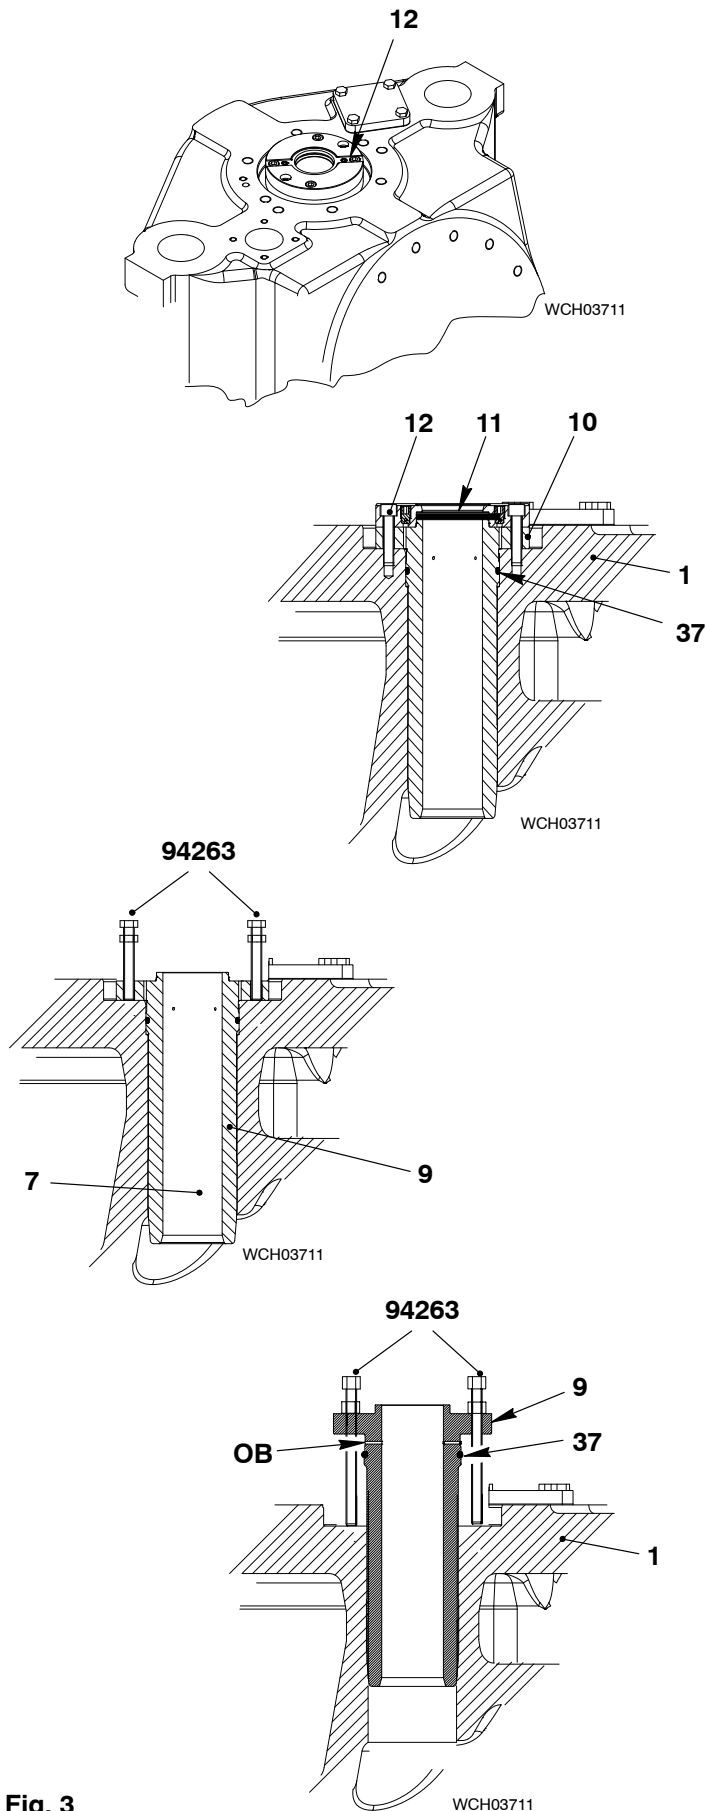

Fig. 3
- 1) Remove the four screws (12, Fig. 3).
- 2) Remove the spacer (10).
- 3) Remove and discard the rod seal (11).
- 4) Put the jack screws (94263) into the flange of the guide bush (9).
- 5) Turn the jack screws (94263) to lift the guide bush from the valve spindle (7).
- 6) Remove and discard the O-ring (37).
- 7) Measure the inner diameter of the guide bush (9).
- 3) Do a check of the piston seal ring (17) for damage. If you find damage, replace the piston seal ring.
- 5) Put oil on the valve spindle (7).
- 6) Use the two M20 eye bolts and two ropes or the lifting tool (94209) to lift the valve cage to the top of the valve spindle (7). Make sure that the valve spindle does not move.
- 8) Put oil on the new rod seal (11).
- 9) Put the new rod seal (11) in position on the valve spindle (7, Fig. 3).